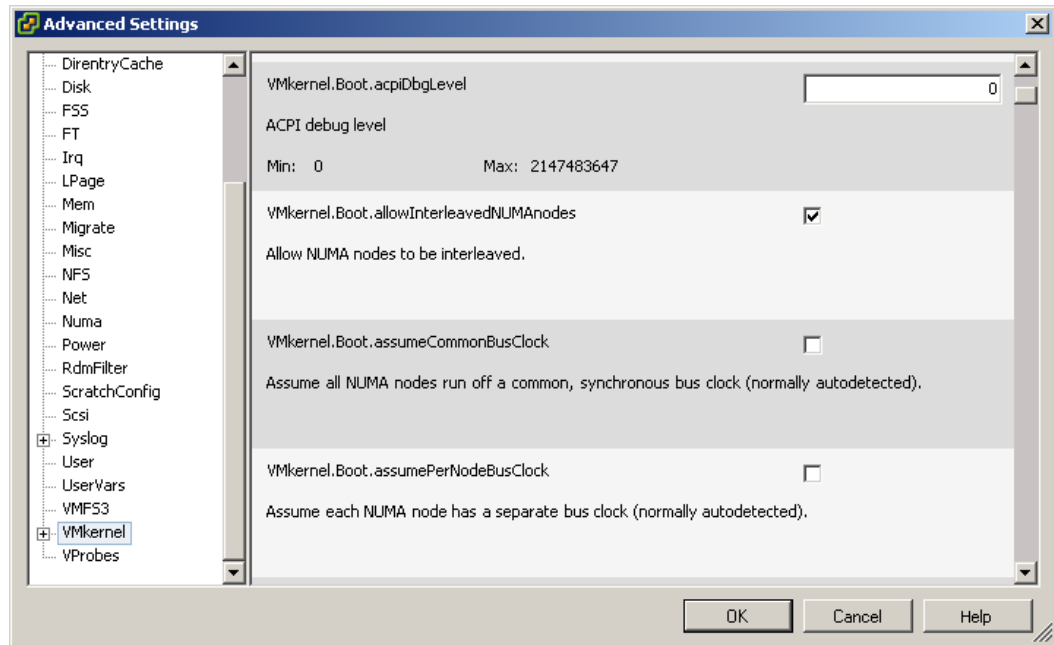

Figure 8-56 Editing the VMkernel settings in vSphere Client
3. Click **VMkernel** in the left pane and select the check box next to **VMkernel.Boot.allowInterleavedNUMANodes**, as shown in Figure 8-56 on page 420.